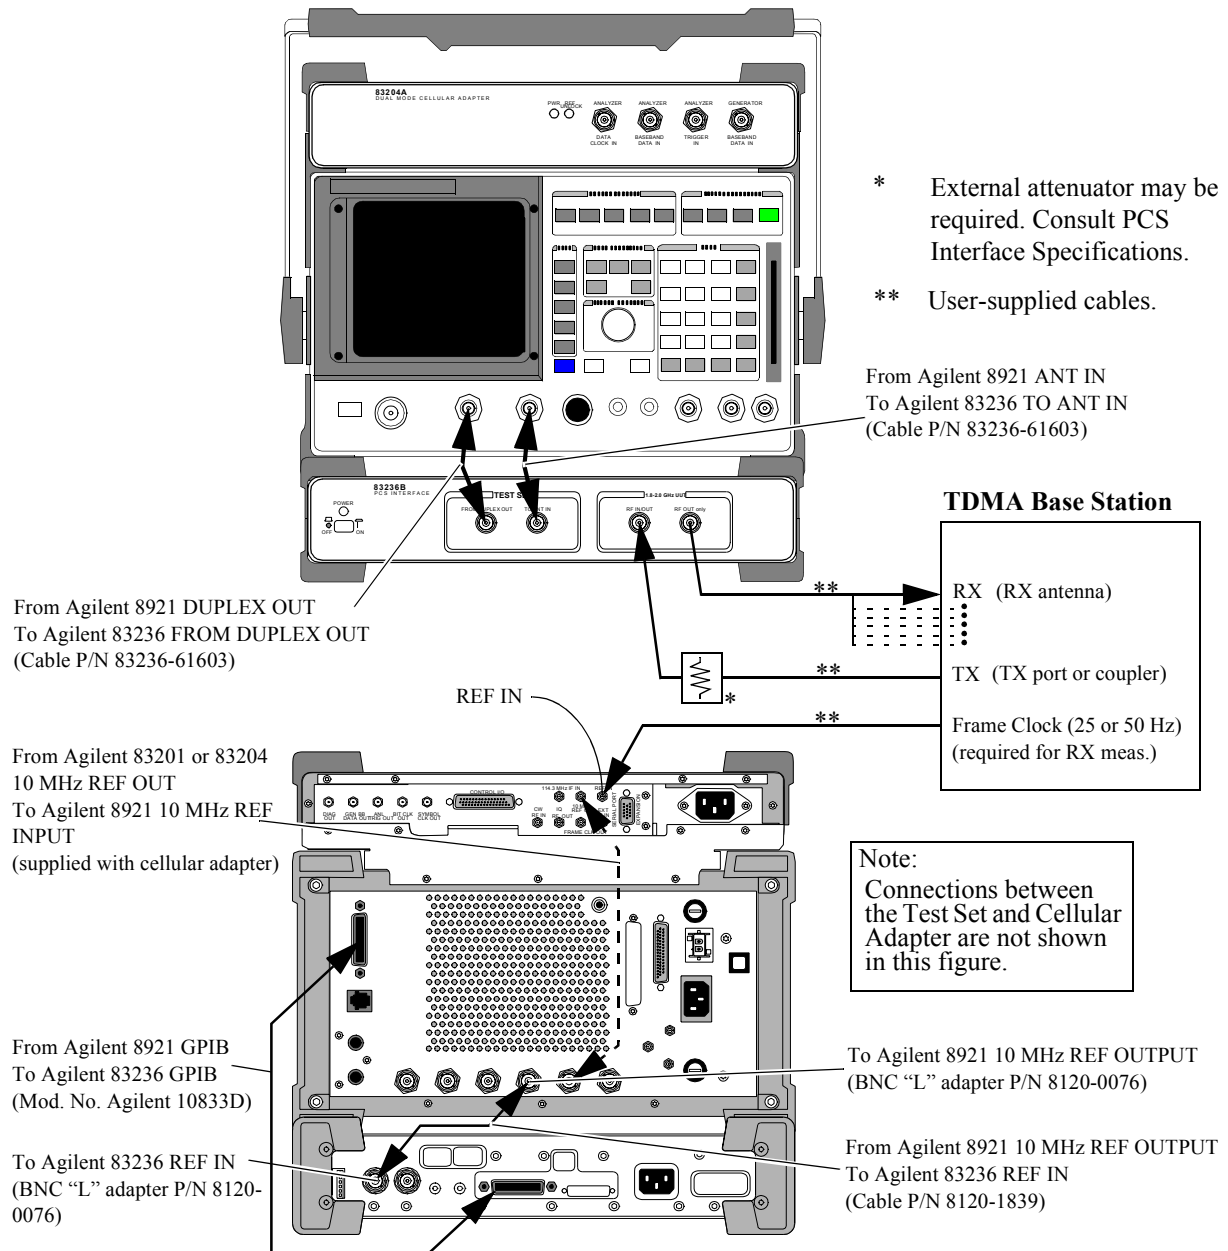

Figure 18
- TDMA base station with frame clock: See figure 18.